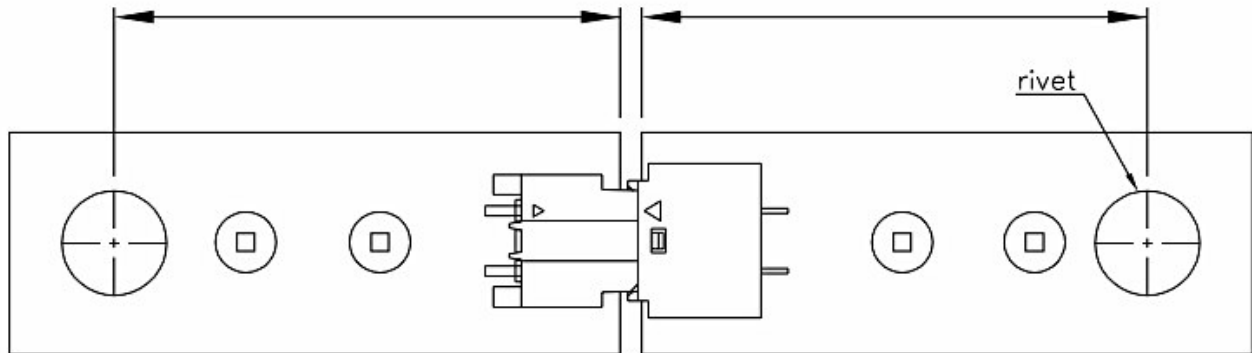

Fig. 3-4-1. (Ref.)
- We deeply suggest using rivet system etc. Don't mating only status.(Fig.3-4-1).